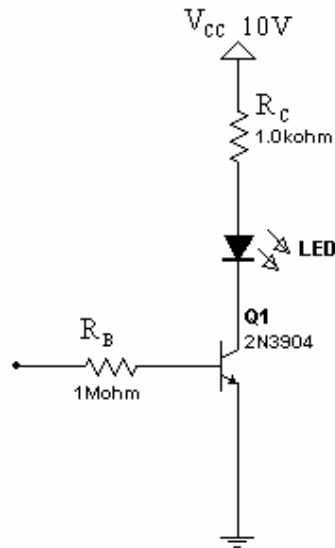

Fig.10: Transistor as a Switch
9. Build the following circuit shown in Figure 10 using the NPN transistor. Be sure to include the current limiting resistor R_C in series with the Light Emitting Diode (LED) or it may be damaged.
10. Make sure that one end of R_B is connected to ground as shown in Figure10. Measure and record the voltages at the Base (V_B), Emitter (V_E), and Collector (V_C). What do you observe?